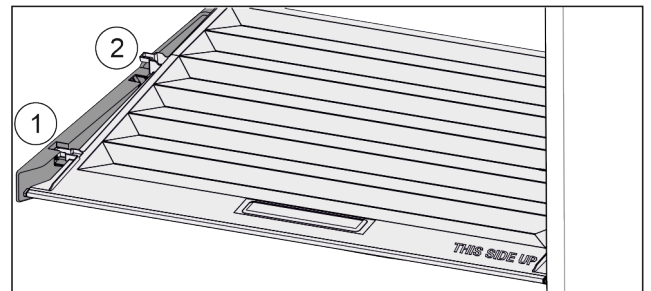

Fig. 140
- Pull the lid up at the front to the opening in the retaining parts Fig. 140 (1).
- Lift from the back and pull it up and out Fig. 140 (2).